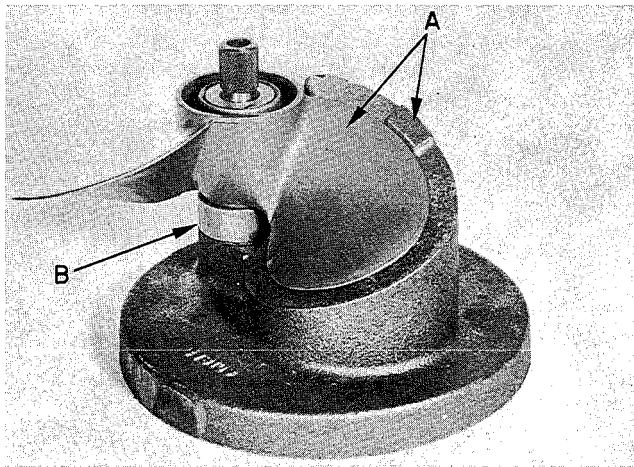

Figure 1.
1. Install propeller on fixture as shown Fig. 1. Make sure propeller hub seats at base of spindle (B) and that leading edge of the propeller blade rests firmly against guide as indicated by arrows "A." Any variation or "off pitch" will be in evi-
4. Remove leather pad and recheck as shown Figure 1.